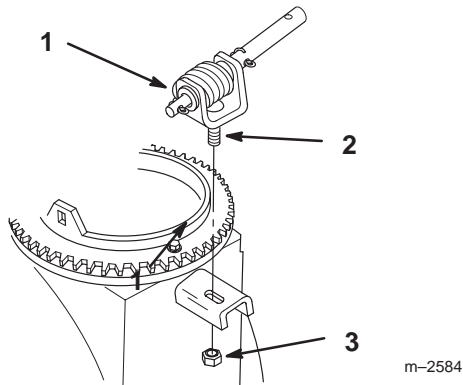

Figure 4
7. Install discharge chute rotator assembly into slot in housing with 5/16 x 1" carriage bolt (head to top) and 5/16" locknut (Fig. 4).